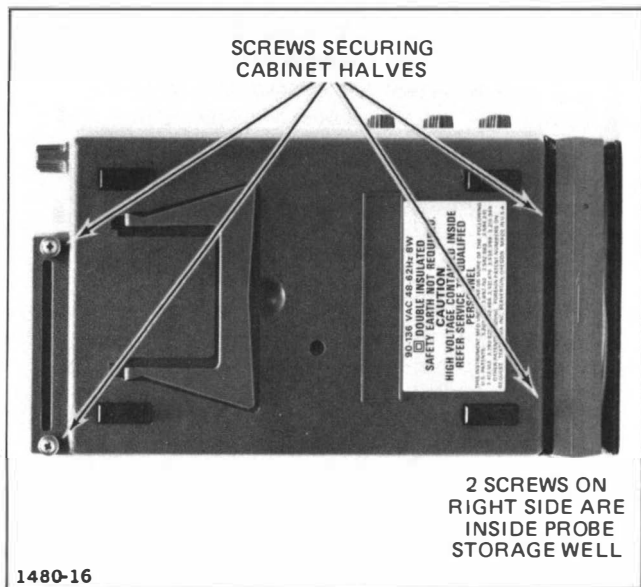

Fig. 7. Location of screws securing cabinet halves.
1. Unwind the probe lead and then the power cord. Turn the instrument on its top and remove the four screws holding the cabinet together (see Fig. 7). Two of the screws are located inside the probe storage slot.